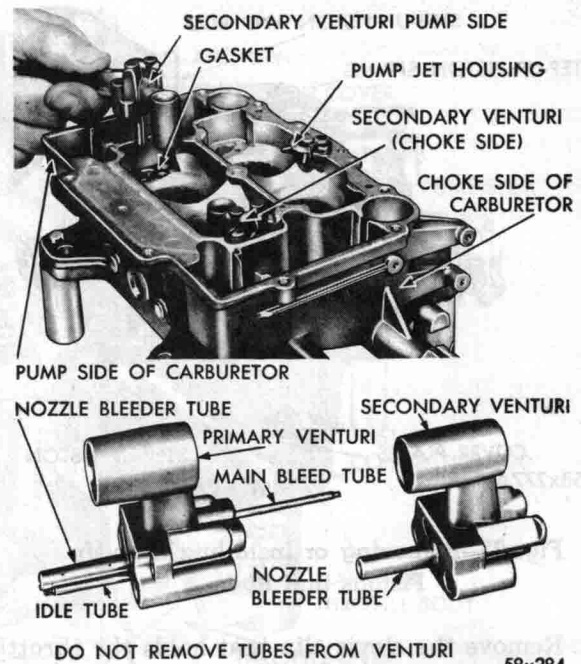

Fig. 27—Removing or Installing Secondary Venturi
(5) Remove the screws that attach the secondary venturi (choke and pump side) to the main body. Lift the secondary venturi assemblies straight up and away from the body, as shown in Figure 27.
(6) Using Tool T109-59, screw driver bit, remove the accelerator pump intake check valve located inside the fuel bowl, adjacent to the accelerator pump cylinder.